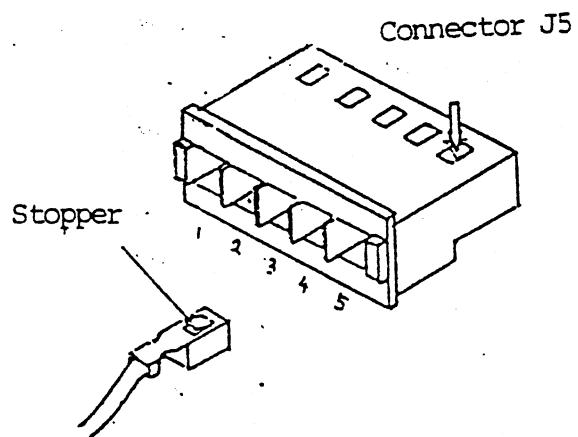

Fig. 6.11
2. Attach the stopper shown in Fig. 6-11 to the arrowed position of the connector J5 of the index photo transistor and pull out the wire pin.